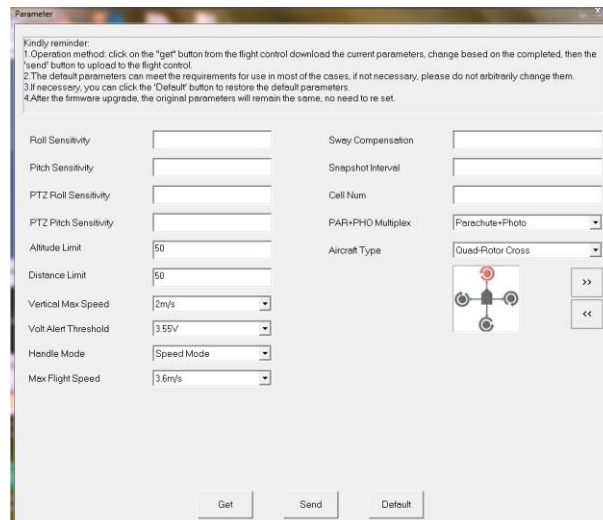

Figure 32
1. Select “Setting(S)”→“ Parameters (P)”, the parameter setting window will pop up, as shown in Figure 32.